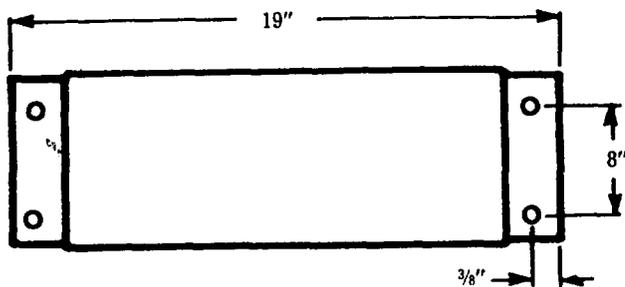

Figure II-1—Installation Dimensions
3.01 The Traffic Recorder is designed for a fixed rack installation in any standard 19-inch equipment rack. The holes in the mounting brackets on the sides of the unit align with the holes in the equipment rack, and the entire unit is bolted to the rack using four screws (screws are provided). No additional support is required. See Figure II-1. The unit may also be adapted to a 23-inch equipment rack by replacement of the left mounting bracket, as viewed from the front of the frame, with a 23-inch mounting bracket (209675).